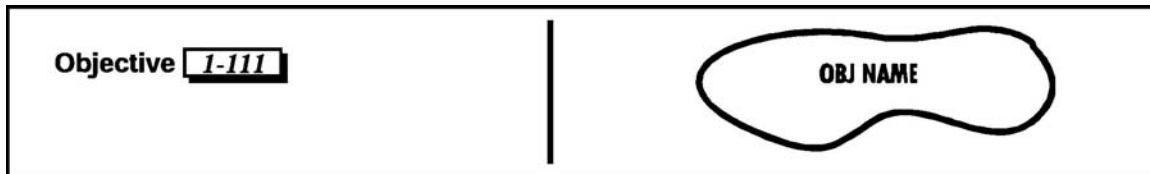

Figure 15. Objective.
- (1) Each objective was identified by the abbreviation "OBJ" and a number, letter, or name designation (Figure 15).